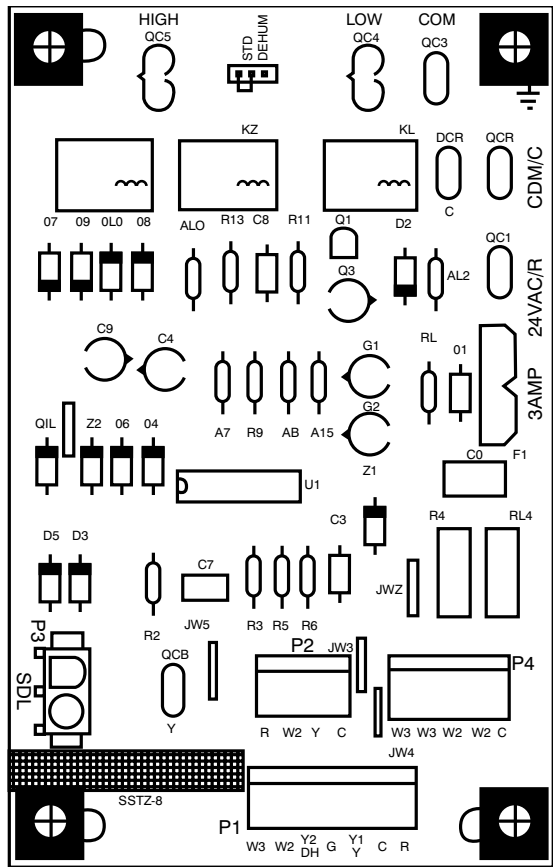

Fig. 22 – Interface Fan Board (IFB)
The cooling speed is marked “LOW” on the interface fan board (IFB) (See Fig. 22). The factory-shipped settings are noted in Table 6. There are 4 additional speed tap wires available for use in either electric heating or cooling (For color coding on the indoor fan motor leads, see Table 5). The additional 4 speed tap wires are shipped loose with vinyl caps and are located in the control box, near the interface fan board (IFB) (See Fig. 22).
2. Remove the current speed tap wire from the “LOW” terminal on the interface fan board (IFB) (See Fig. 22) and place vinyl cap over the connector on the wire.
1. Using Fig. 22, move the two pin DEHUM jumper from the “STD” position to the “DEHUM” position.
2. Remove fan speed tap wire from the “LOW” terminal on the interface fan board (IFB) (See Fig. 22).
1. Move the two pin DEHUM jumper located on control board (see Fig. 22) from the “STD” position to the “DEHUM” position.
When the DEHUM feature is not used, the continuous fan speed will be the same as cooling fan speed. When the DEHUM feature is used, the continuous fan will operate on IFB “LOW” speed when the DH control lead is not energized, or IFB “HIGH” speed when the DH lead is energized (see Fig. 22).